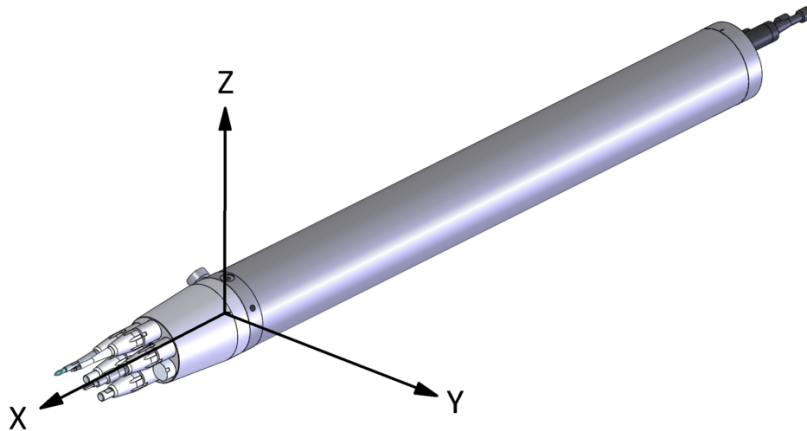
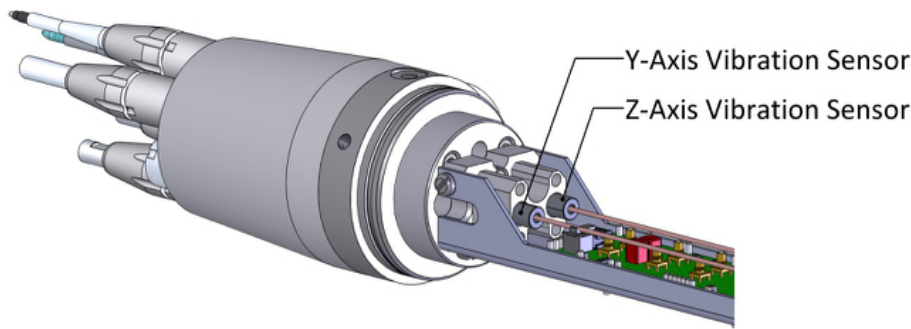

Figure 2: Coordinate System
Figure 4: Vibration Sensors
For **horizontal, or quasi-horizontal, profiling** (e.g. on a glider), the coordinate system (Figure 2) of the MicroRider-1000 is as follows:
- x-axis: Through the pressure port, positive away from the instrument body (i.e. +Z in Figure 2)
- y-axis: Defined as horizontal, positive in the “port” direction (same as for horizontal profiling, i.e. +Y in Figure 2)
- z-axis: Along the axis of the pressure case, positive upward from the front bulkhead to the rear bulkhead (i.e. -X in Figure 2)
Two vibration sensors are installed on the frame mounting block that is located inside the instrument (Figure 4). Each vibration sensor is a piezo-accelerometer that is fixed in position and cannot be adjusted or removed. The vibration sensors are alternating current (AC) sensors and are treated like shear probe channels. Their primary purpose is to sense the vibrations of the instrument in the y- and z-directions (Figure 2). Common-mode vibrations measured by both the vibration sensors and the shear probes (such as vibrations induced from the instrument) can be removed from the shear signals during post-processing of the data.
There is also a 2-axis tilt sensor installed on the power supply board that is located inside the instrument. The sensor measures the DC and low-frequency response to tilting and has an accuracy of $\pm 0.1^\circ$ over the oceanic temperature range. For the MicroRider-1000, the inclinometer measures the rotation about the x-axis (roll) and y-axis (pitch), where the axes are defined in Figure 2.